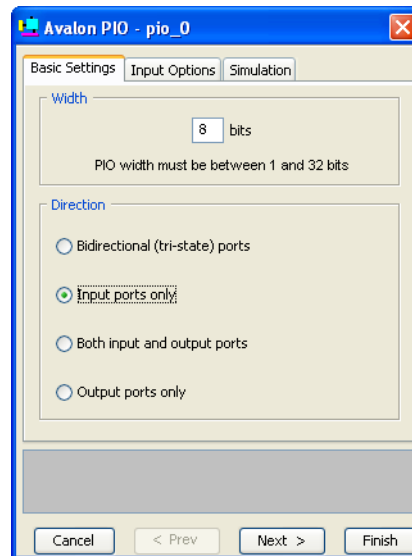

Figure 10. Define a parallel input interface.
- Select Avalon Components > Other > PIO (Parallel I/O) and click Add to reach the PIO Configuration Wizard in Figure 10